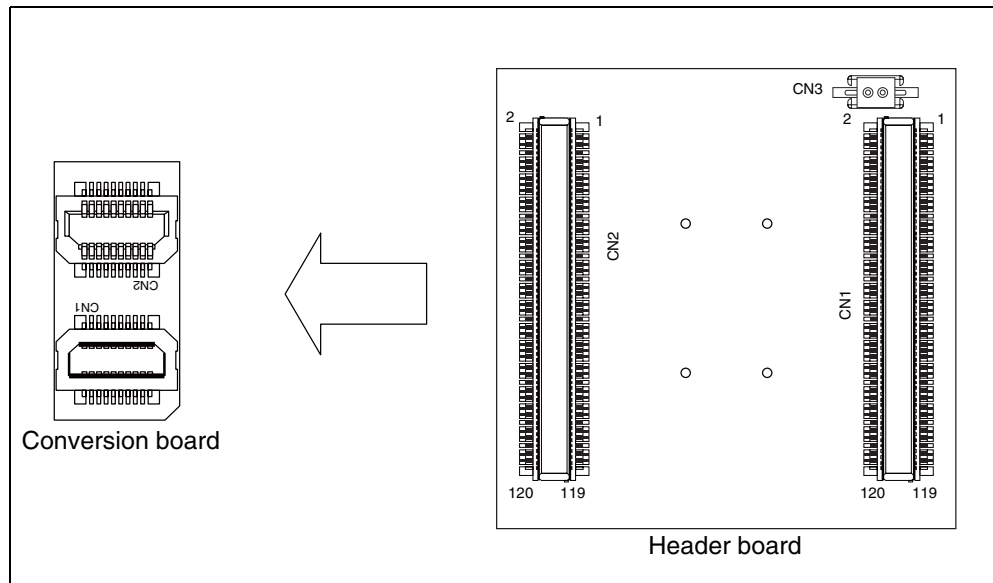

Figure 2 Connection position (Top view)
2. Connect the header board to the user system on which the conversion board is mounted (The connector shape prevents incorrect connections) (See Figure 2).